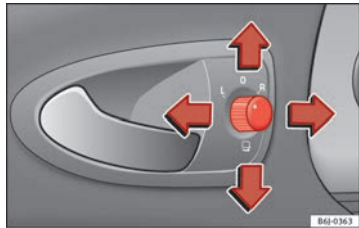

Fig. 74 Controls of exterior mirrors.
1. Turn knob  $\Rightarrow$  Fig. 74 to position **L (left exterior mirror)**.
- Turn the control  $\Rightarrow$  Fig. 74 to position to fold in the exterior mirrors. You should always fold in the exterior mirrors if you are driving through an automatic car wash. This will help prevent damage.